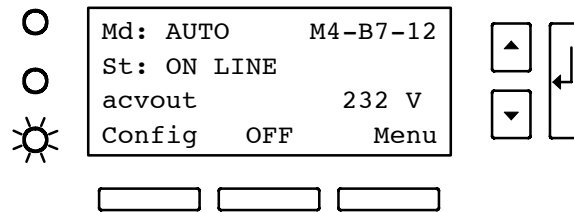

Figure 56. Front Panel Display (Normal Operation)
During normal operation, the display appears as shown in Figure 56. Md: indicates the current UPS operating mode and St: indicates the operational state. The number of power modules (M) and number of battery module strings (B) that are currently online, and the total number of module slots in the cabinet—for example, M4-B7-12—is shown in the upper right corner of the display. (The count of battery strings does not include additional battery strings contained in connected external battery cabinets.)